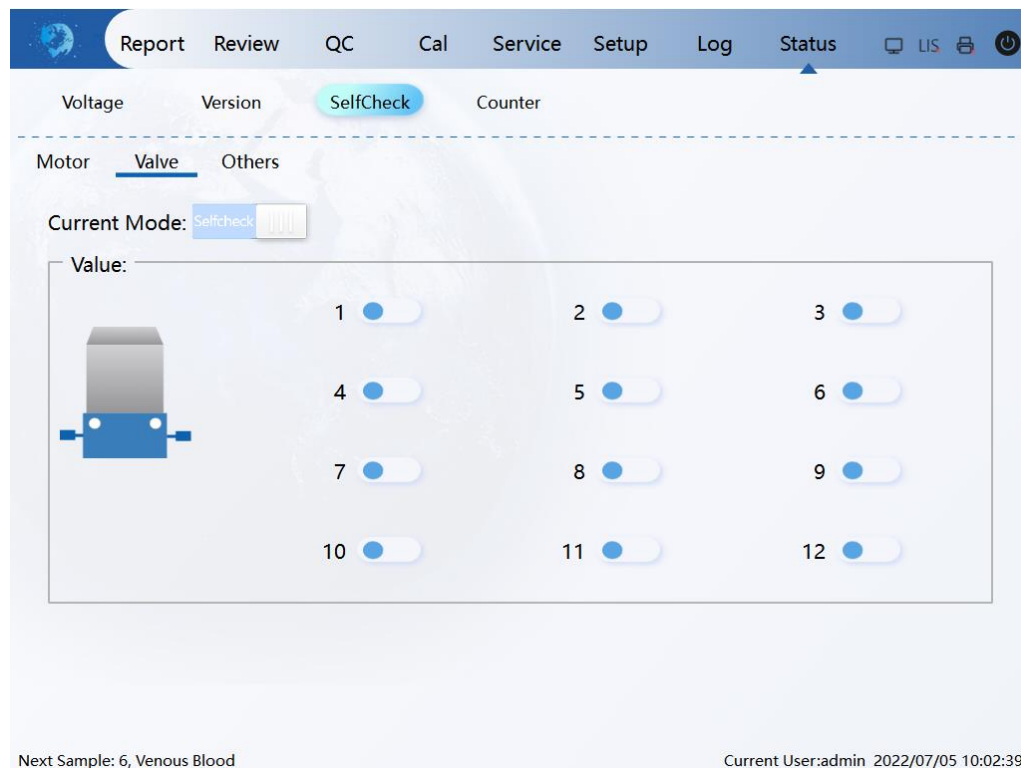

Figure 11-5 Valve
1. Select "SelfCheck > Valve" to enter the valve self-check interface, as shown in Figure 11-5.